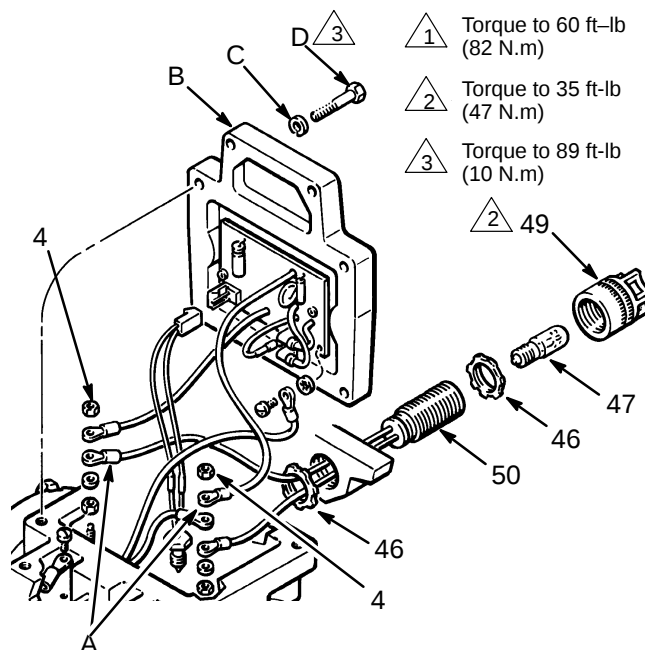

Fig. 1 For Heater Models 206-850, 226-819,
The terminals (A) on the ends of the indicator lamp socket (50) are special, fused terminals. See Fig. 1. To reduce the risk of a fire or explosion which can result in serious bodily injury and property damage, use only **ORIGINAL GRACO REPLACEMENT PARTS**.
NOTE: See Fig. 1 for Heater Models 206-850, 226-819, 206-565 and 226-816. See Fig. 2 for Heater Models 220-523 and 220-522. Fig. 3 applies to all models.